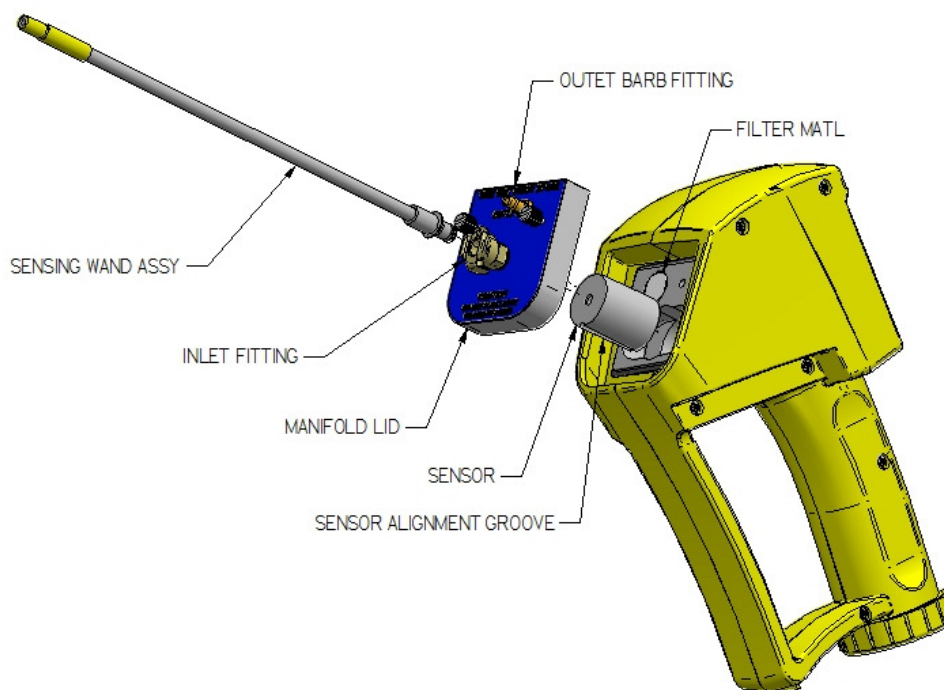

Figure 2: PortaSens III, right side view.
2. Insert sensor into D16 by removing the manifold lid as shown (Fig 2) - make sure the membrane faces out and the chip clips in correctly when pin is aligned. Rotate to establish connection.
3. Insert wand into inlet fitting on the manifold lid as shown (Fig 2).